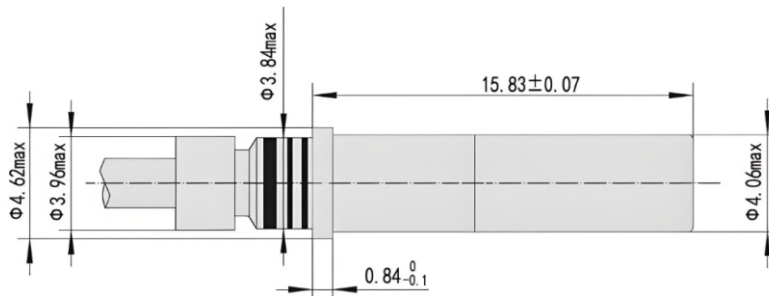

Figure 2.9
④Figure 2.9 shows the crimped 12# coaxial socket.